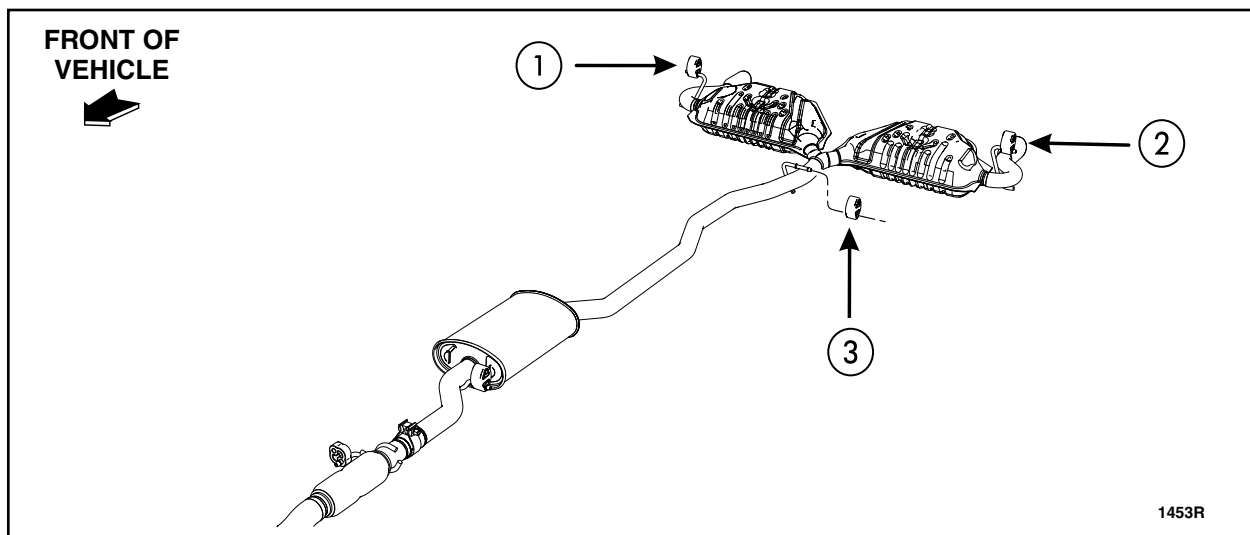

FIGURE 1
- a. Detach the three (3) muffler and tailpipe assembly rear isolators. See Figure 1.